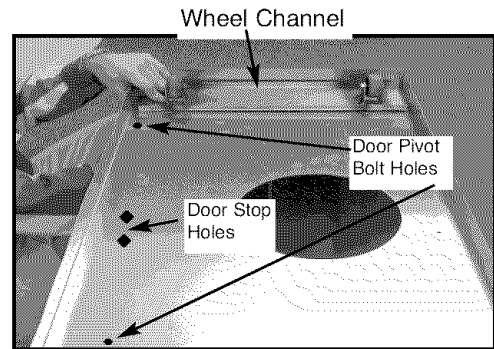

Fig. 2
2. Set the base on the top of the cart assembly, with large opening closer to back portion of cart, and align the eight mounting holes. Then set the 2 wheel channels on the base and attach them using the (8) bolts provided, from inside the cart upwards through wheel channels. (See Fig. 2)
4. **Door Pivot Bolts:** Insert Bolts downward from bottom side of Cart Base through the holes found in the left & right/front of the base and secure with bolt. (See Fig. 2)